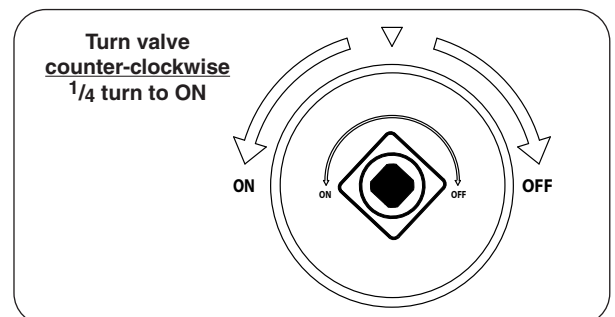

Fig. 33-2 ON/OFF key valve detail
3. Turn the ON/OFF key valve counter-clockwise a $1/4$ turn to the **ON** position (Fig. 33-2).